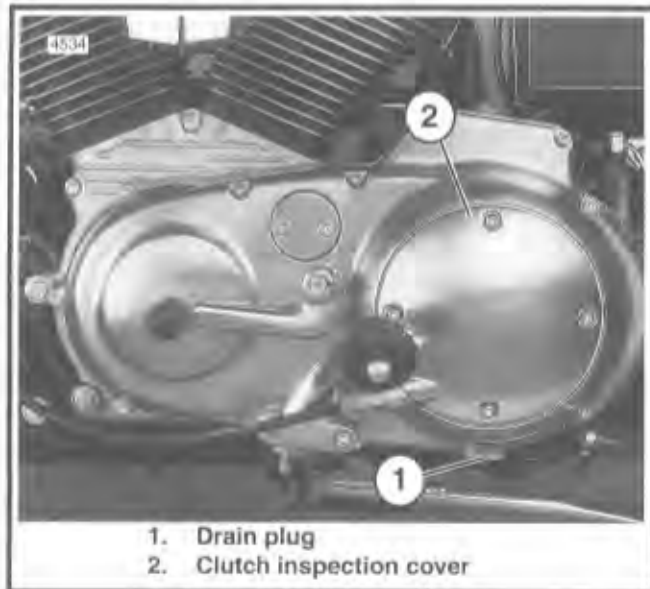

Figure 6-15. Primary Cover
2. See Figure 6-15. Position a suitable container under transmission lubricant drain plug (1). Remove drain plug and drain lubricant.